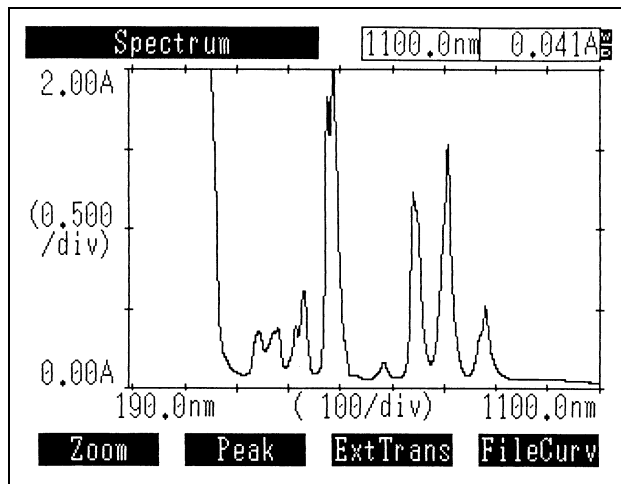

Fig. 3.10 Hard copy of screen
- ① **Hard copy of screen (Fig. 3.10)**